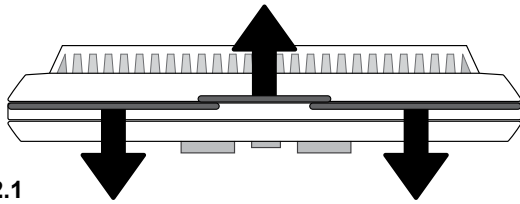

Figure 22.1
1. Separate the body of the thermostat from the mounting plate by gently pulling the two pieces apart (Figure 22.1)